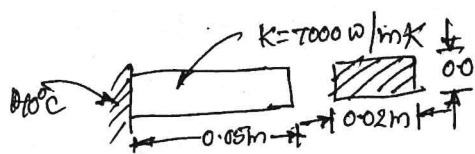

Fig.Q8(b)
b. Determine the temperature distribution in rectangular fin as shown in Fig.Q8(b). Assume steady state and only conduction process. Take heat generated inside the fin as  $400 \text{ W/m}^2$ .